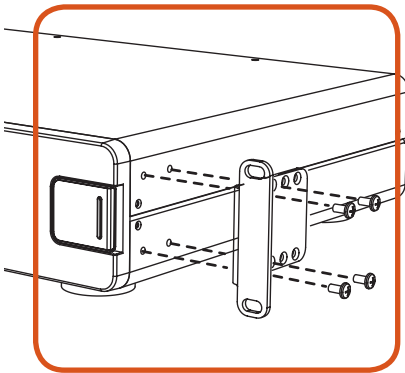

Figure 1
4. Attach the bracket to the side of the Power Console with the screws provided (Fig. 1). You must use a minimum of four screws to mount each bracket.